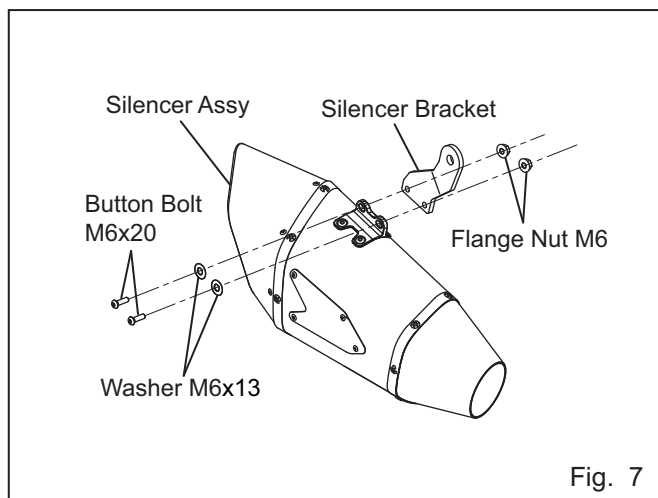

Fig. 7
- 8) Attach Silencer Bracket on to Silencer Assy with 2 of each Button Bolt M6x20, Washer M6x13 and Flange Nut M6 (See Fig. 7). Tighten the bolts by hand only at this stage.